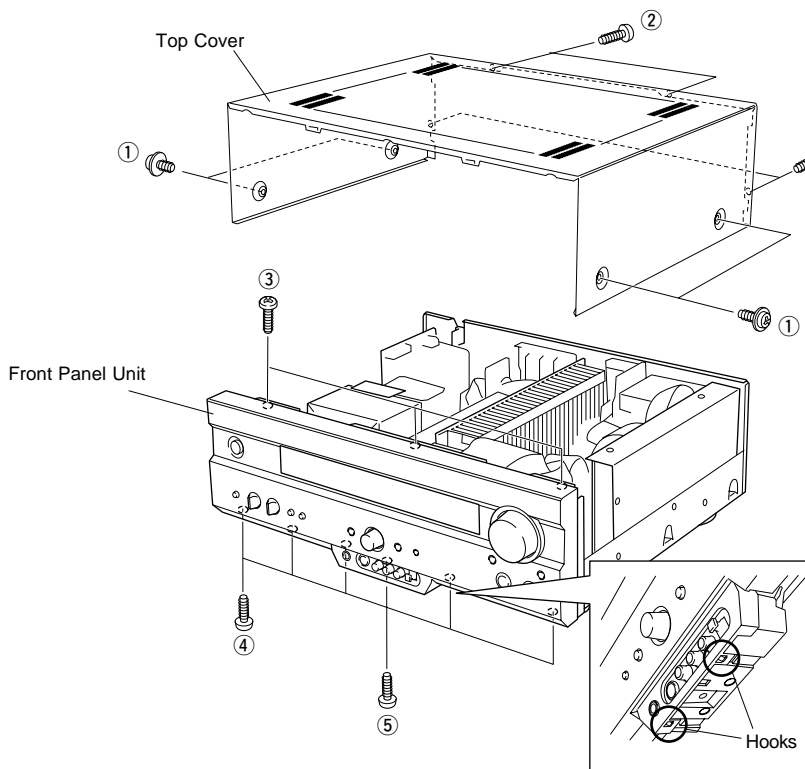

Fig. 1
Remove 8 screws (① and ②) and then remove the Top Cover in Fig. 1.
- a. Remove 9 screws (③, ④ and ⑤) in Fig. 1.
- c. Lift 2 hooks and then remove the Front Panel Unit in Fig. 1.